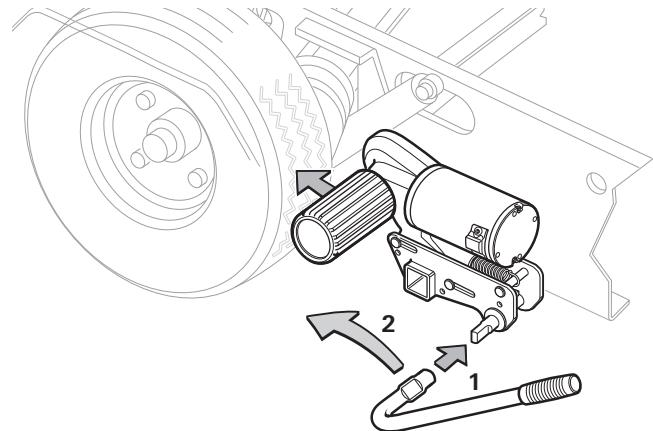
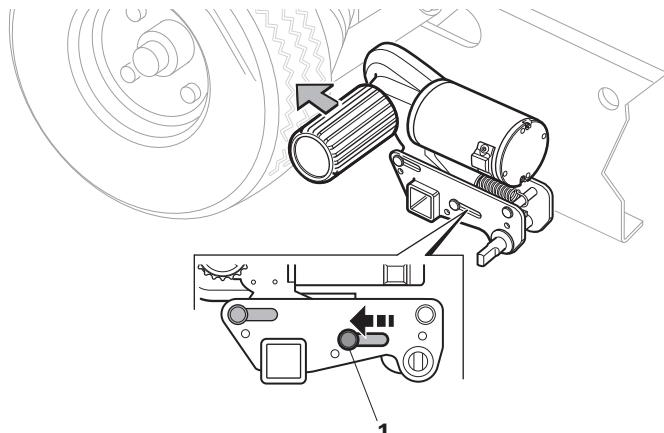

Figure 4
Figure 5
- Attach the engagement lever to the toggle crank (Figure 4 - 1).
- Turn the engagement lever in the direction of the arrow (towards the vehicle wheel) (Figure 4 - 2) until the position indicator is at 'J' (Figure 5 - 1) in the housing. In the end position, the drive unit engages securely and the drive roller is pressed approx 20 mm into the tyre. This must be checked on both sides before manoeuvring.